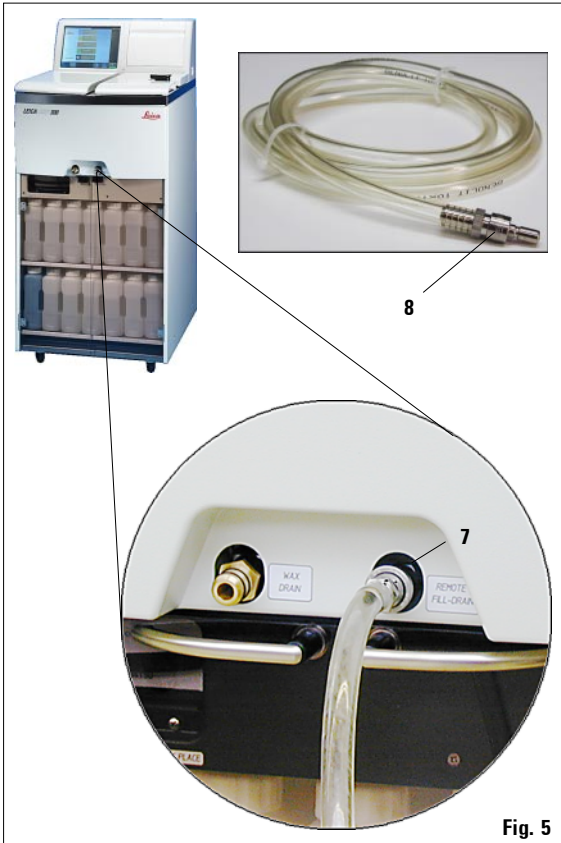

Fig. 5
- Connect the remote fill / drain hose as shown in Fig. 5.
When inserting the hose into the fill/drain connection (item 7 in Fig. 5) the connecting device (8) of the hose must lock with an audible click.